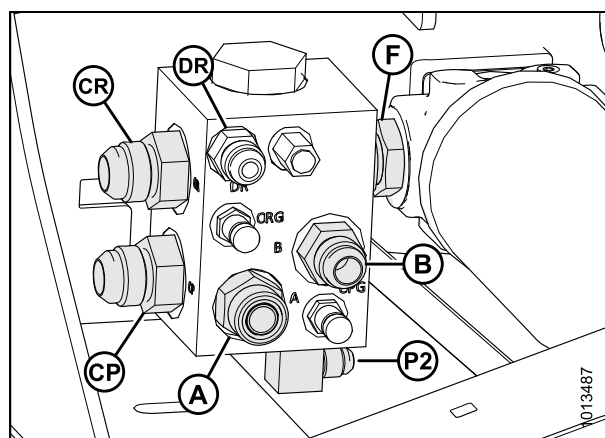

Figure 3.6: Hydraulic Ports on New Cooler Bypass Manifold
5. On the left side of the windrower, inside the frame, attach a cable tie (not provided in kit) to hose (A) or mark the hose to ensure that you remember where to reattach it later.
6. Disconnect hoses and lines (A) and (D) attached to the existing cooler bypass manifold (B).
7. Disconnect the existing cooler bypass manifold (B) from the filter (C) next to it.
8. One at a time, transfer fittings from the old manifold (B) to the new manifold (MD #183494) provided in the kit. Fittings should be positioned as shown in Figure 3.6: Hydraulic Ports on New Cooler Bypass Manifold, page 11. Discard the old manifold.